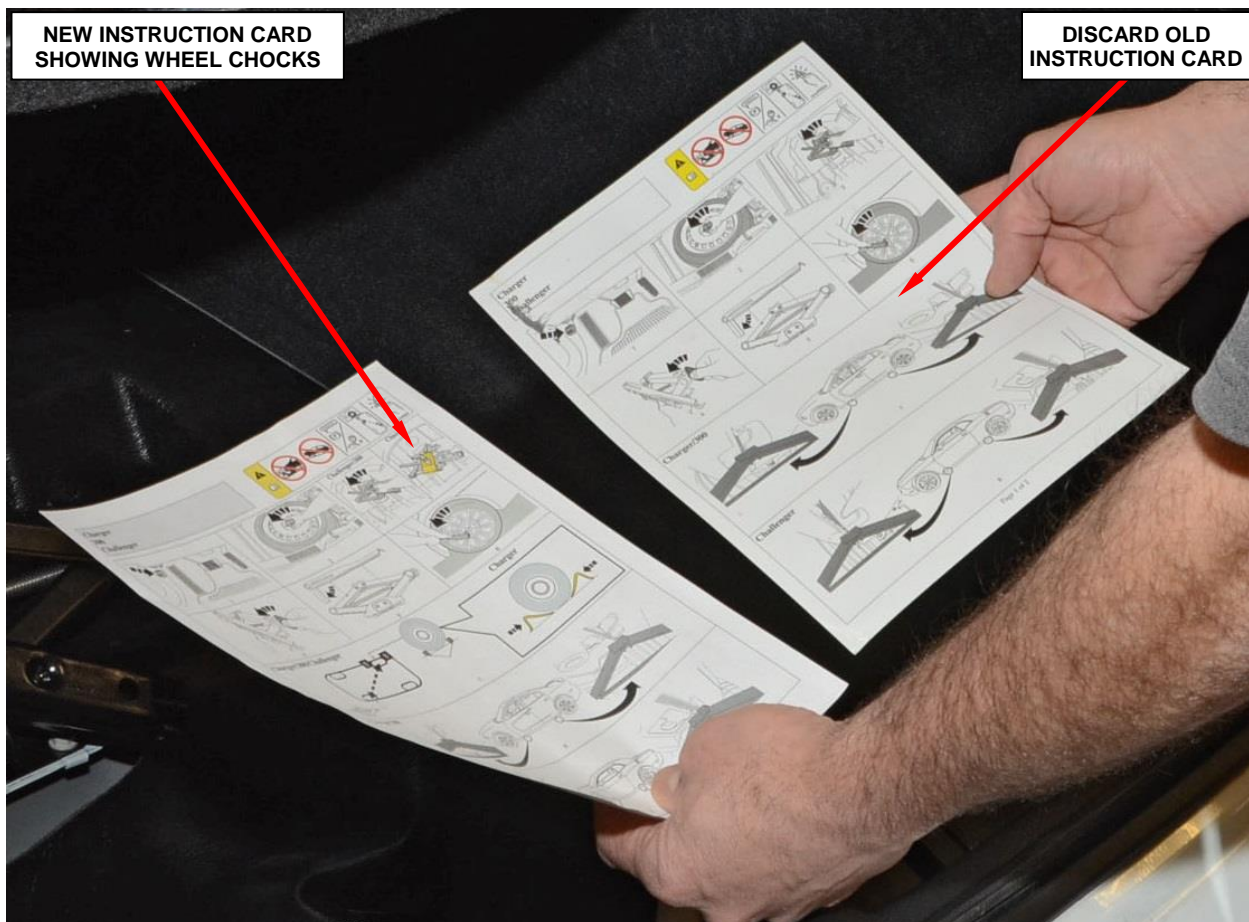

Figure 4 – Replace Tire Changing Instruction Card With New Version.
7. Discard the old tire changing instruction card and replace with the NEW instruction card which includes wheel chock usage steps for enhanced vehicle stabilization (Figure 4).